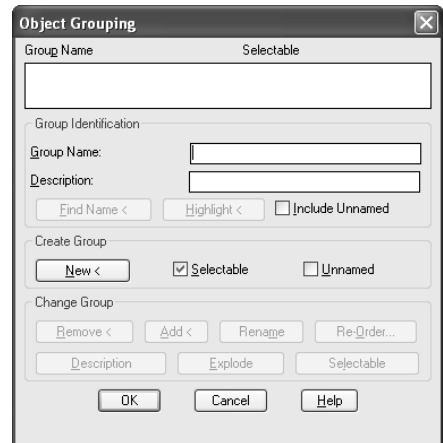

Figure 8.8
1. Enter **g** or **Group** to open the Object Grouping dialog box, as shown in Figure 8.8.
Tables 8.2 through 8.4 show the options available in the Object Grouping dialog box, which you saw in Figure 8.8. AutoCAD LT users have a different set of options. See the “Working with the LT Group Manager” section.